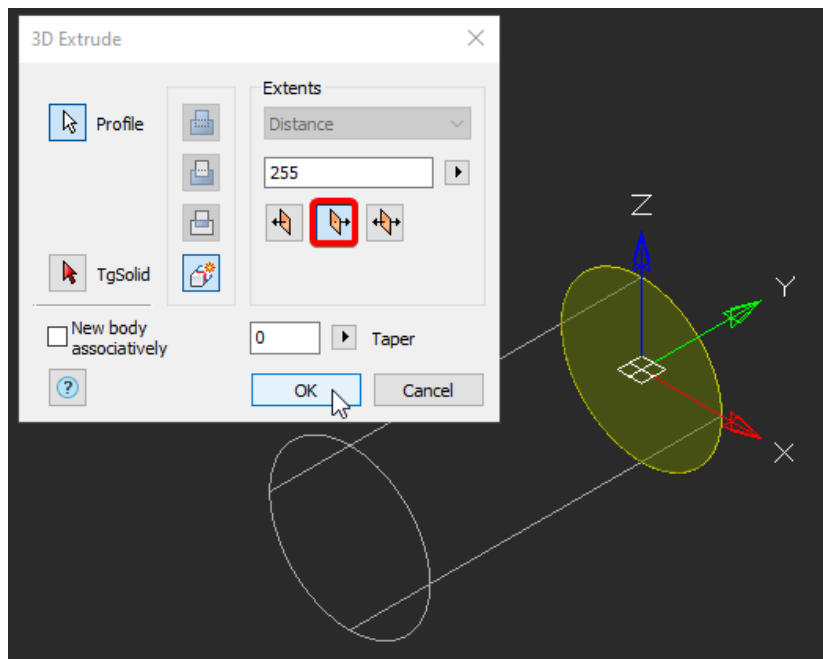

Fig. 8. The dialog box of the 3D Extrude operation
3.2. In the dialog box, enter the distance value 255 and click the **Negative Direction** button. Confirm with **OK** (Fig. 8).